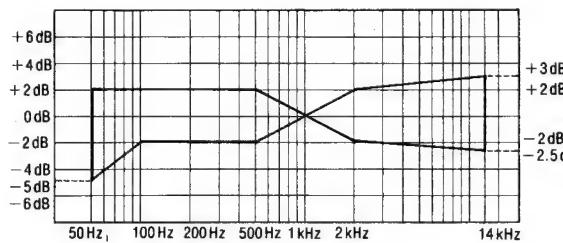

Fig. 9
- Playback the recorded signal and assure that it is within the range shown in Fig. 9 in comparison to the reference frequency (1 kHz).